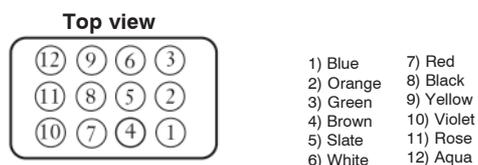

Figure 16
**7.3** Repeat steps 7.2 for the remaining fibers in sequential fiber order (i.e., blue, orange, green, brown, etc.). Work the threading process across the 900 μm tube assembly in the proper order (Figure 16).